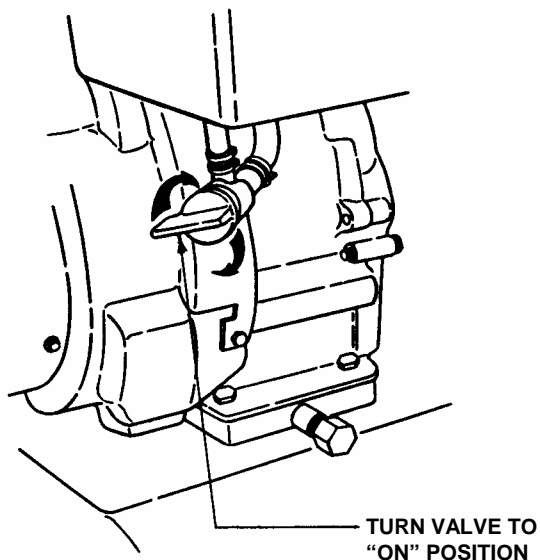

FIGURE 2.3
1. Turn fuel shut off valve to the "ON" position. See Figure 2.3.